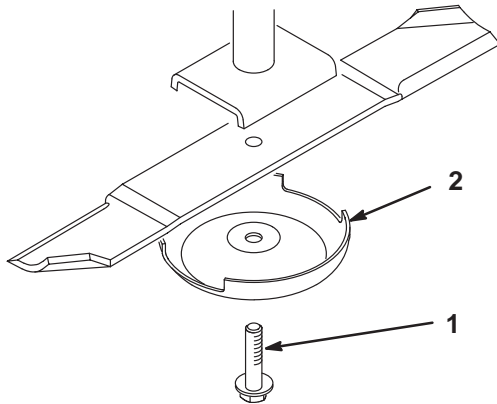

Figure 34
2. Grasp the end of the blade using a rag or thickly padded glove. Remove the blade bolt, anti-scalp cup, and blade from the spindle shaft (Fig. 34).